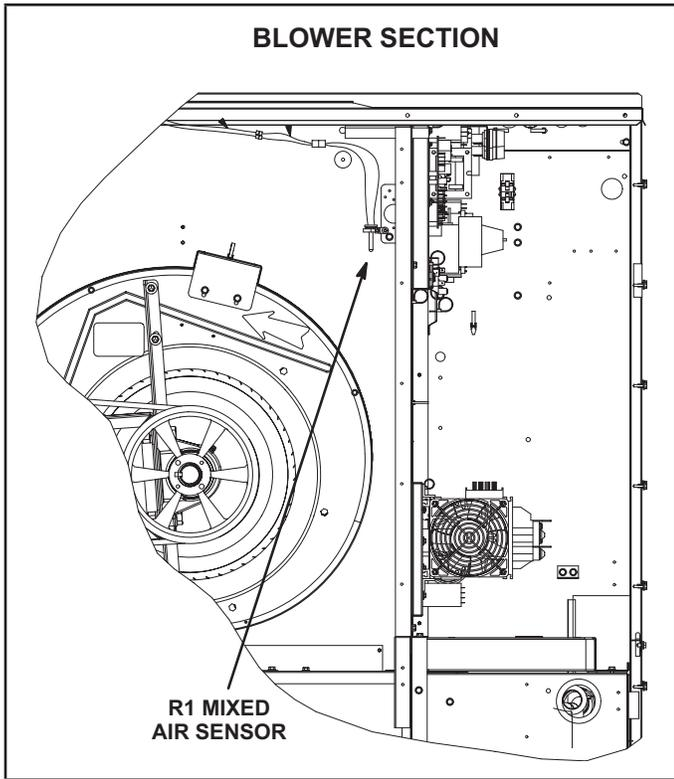
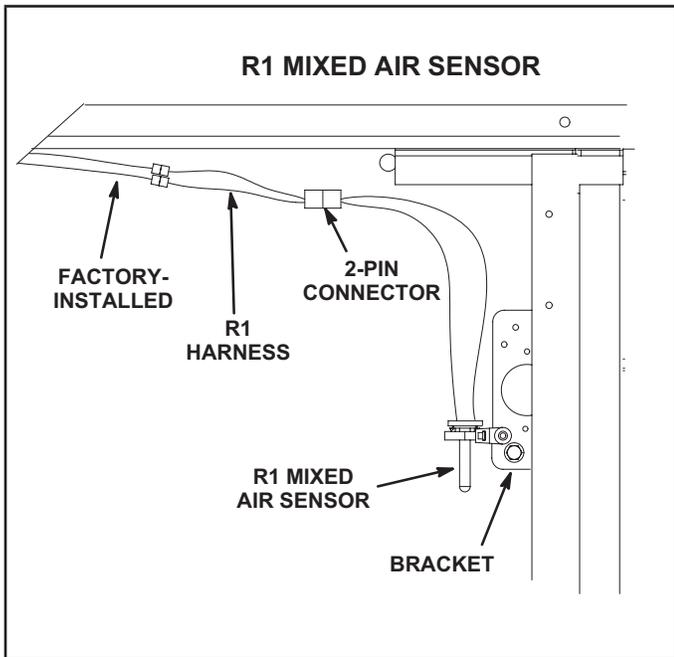

FIGURE 36
FIGURE 37
- 2 - Install sensor on bracket as shown in FIGURE 36 and FIGURE 37.
- 1 - Locate two wires labeled R1 in wire bundle in top of blower section. Connect spade terminals on R1 harness to the wires from the bundle. Connect the R1 harness 2-pin connector to the R1 2-pin connector. See FIGURE 37. Make sure to secure wires away from moving parts.